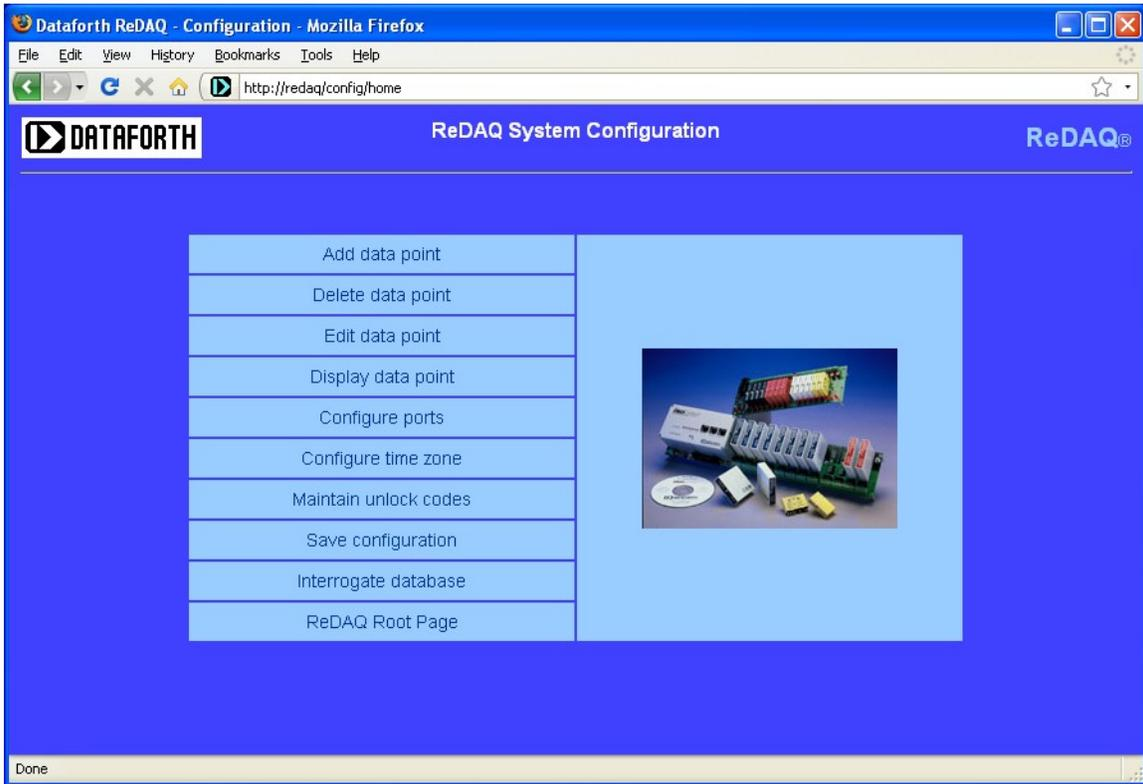

Figure 7 - ReDAQ System Configuration Menu
7. Obtain an unlock code for the required isoLynx. Enter this via the ReDAQ “System configuration” section, under “Maintain unlock codes”. Then select “Save configuration” and “Save” in order to write the unlock code permanently to the configuration file. The configuration menu page is shown in Figure 7.